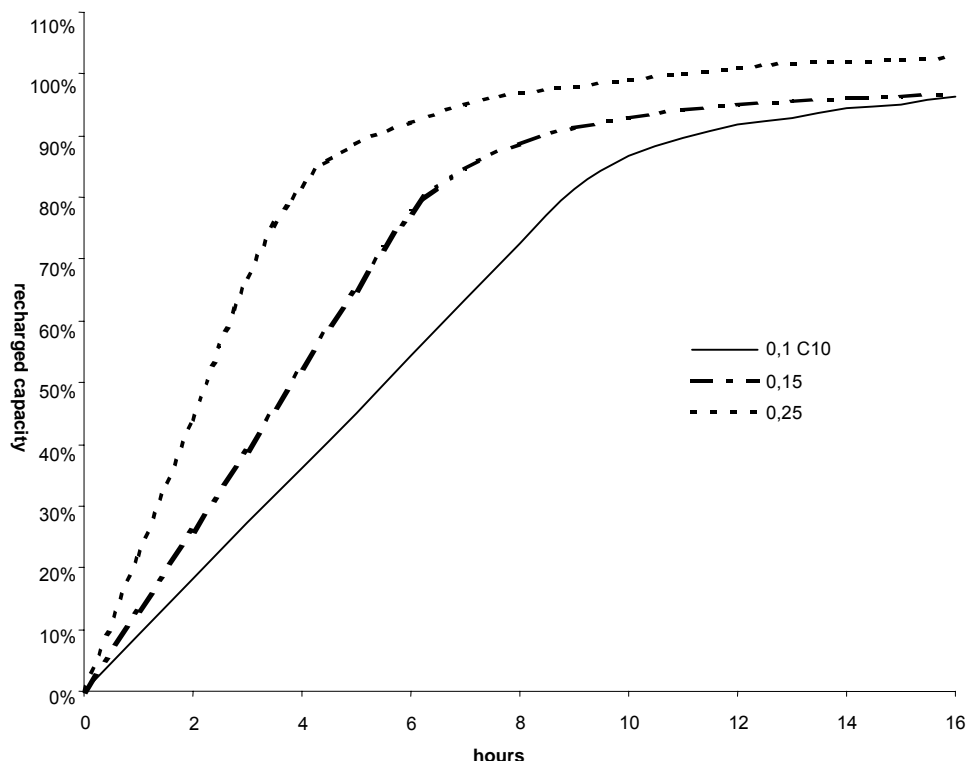

Fig. 5 Recharge Time and % Restored as a Function of Current Limit
Figure 5 demonstrates three recharge profiles using (3) different current limits.